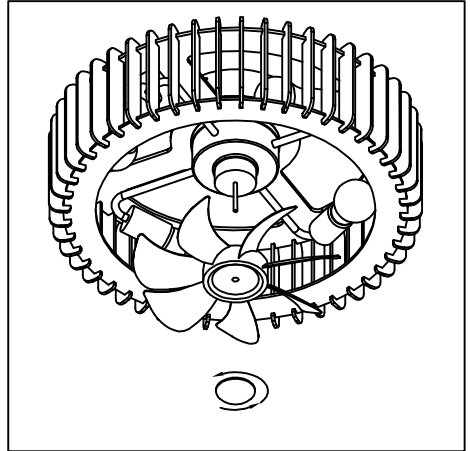

Fig7
2. Turn left to tighten the nut and installation the blade. (Fig7)